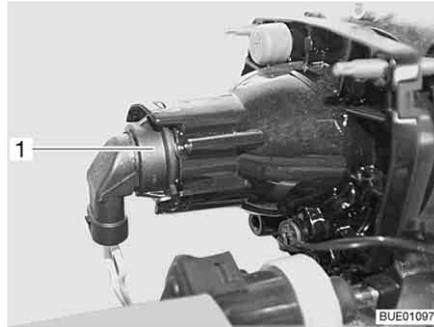

Fig. 273 Low beam/main beam/parking light
- Put your hand behind the lamp holder (Fig. 273,1).